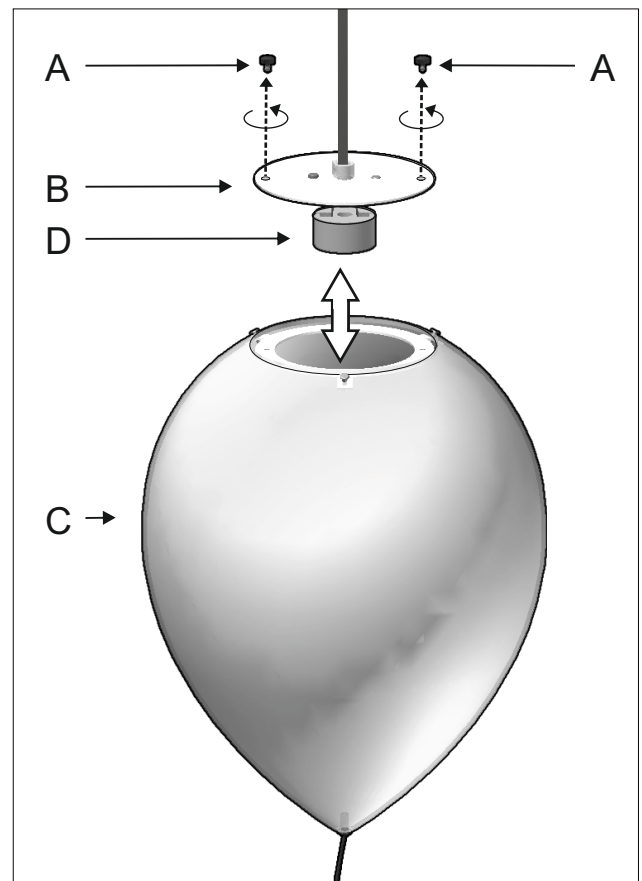

Figure 1
1 - Unscrew the knurled nuts (A) to remove the mounting bracket (B) from the lamp body (C). Place the bulb into the lamp holder (D) and screw back the mounting bracket to the lamp body. Figure 1.